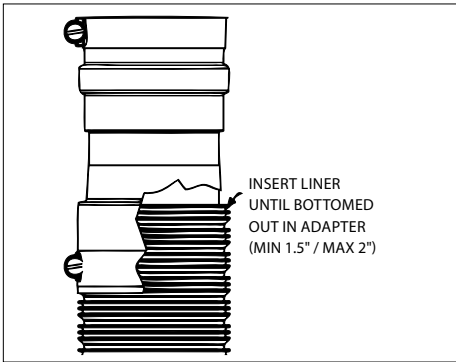

Figure 13
5. Place adapter on liner (the inner tube fits inside the liner and the outer tube fits outside the line). The adapter when properly seated will cover marks made on liner in **step 1** (**Figure 13**).